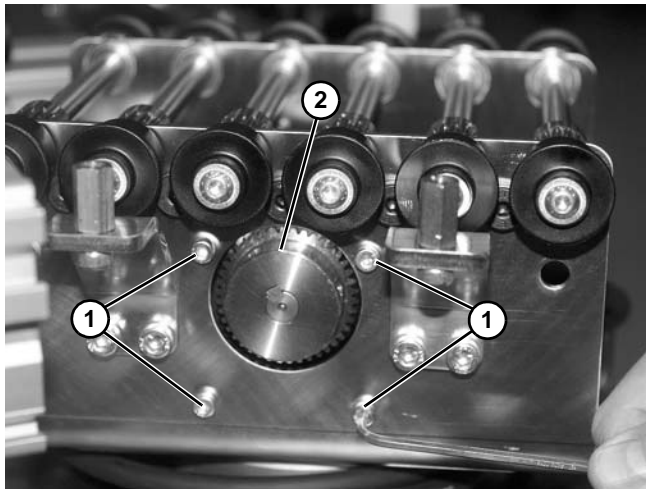

Figure 148
5. Remove four screws (**Figure 148, item 1**) securing drive motor (**Figure 148, item 2**) onto assembly.